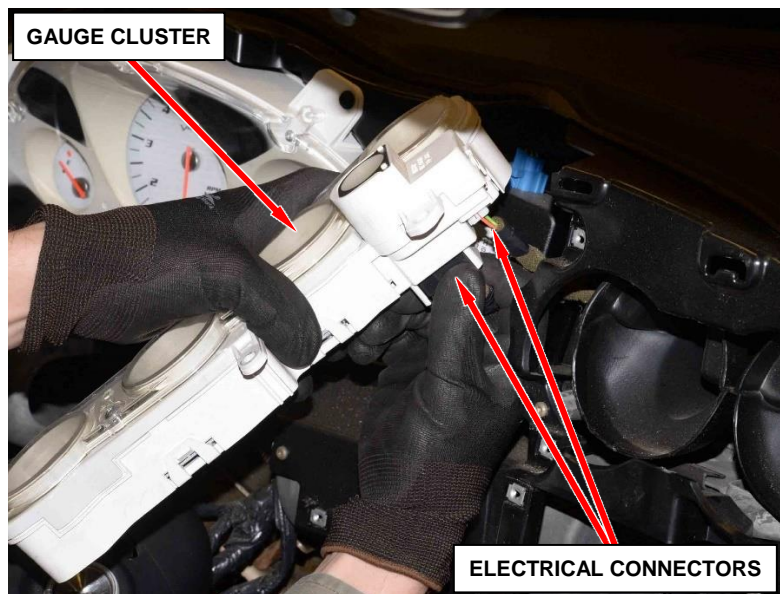

Figure 16 – Gauge Cluster Electrical Connector
- 34. Carefully pull the gauge cluster away from the instrument panel and disconnect the two electrical connectors from the back of the gauge cluster. Then remove the gauge cluster from the vehicle (Figure 16).
49. Connect the two electrical connectors to the back of the gauge cluster then install the gauge cluster to the instrument panel (Figure 16).